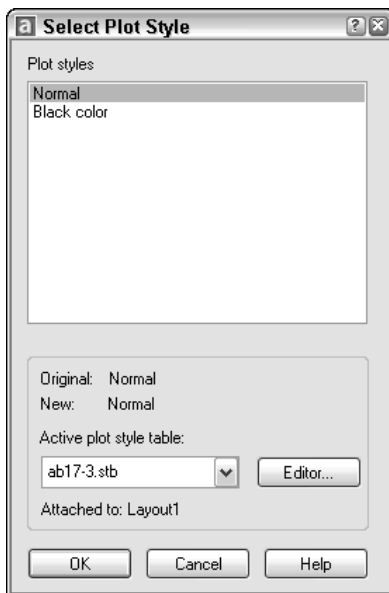

Figure 17-18: The Select Plot Style dialog box lets you choose a plot style for a layer.
13. Choose `Layer Properties Manager` from the `Layers` toolbar. In the `Layer Properties Manager`, choose `A-DETL-PATT` (the layer with the magenta color). Click that layer's `Plot styles` column to open the `Select Plot Style` dialog box, shown in Figure 17-18. Choose `Black color` and click `OK`. The `Plot Style` for the `A-DETL-PATT` layer now shows as `Black color`. Click `OK` to close the `Layer Properties Manager`.